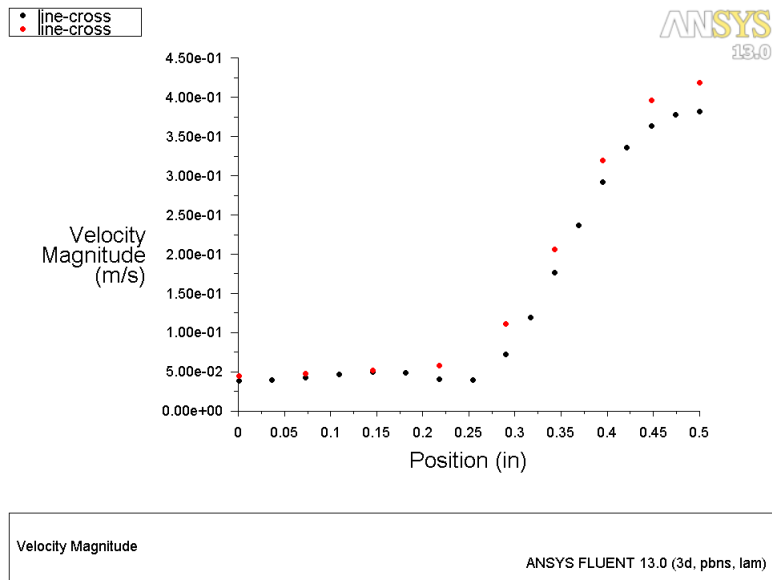

Figure 16: Comparison of Velocity Magnitude Profiles After First Mesh Adaption
- (d) Click Plot (Figure 16).
Figure 16 indicates that the velocity distribution appears to be approaching mesh independence. However, based on the comparison of temperature profiles, you need perform another adaptation.